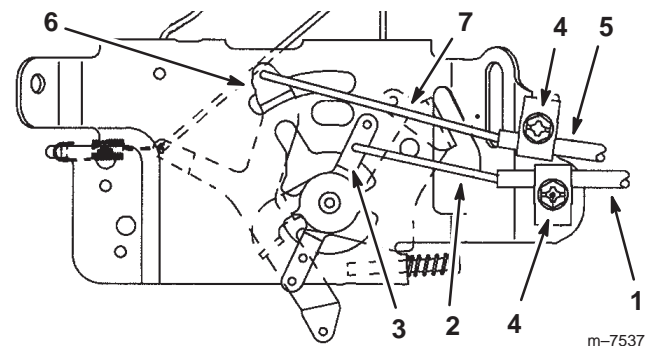

Figure 7
1. Hook the throttle cable inner wire into the hole of the speed control lever (Fig. 7).
2. Move the throttle control lever to the **Fast** position (Fig. 7).
3. Loosen the throttle cable clamp screw (Fig. 7).
4. Pull the throttle cable slightly to remove any slack in the inner wire (Fig. 7).
5. Tighten the cable clamp screw to lock the adjustment in place (Fig. 7).
1. Move the choke control to the **Open** position (Fig. 7).
2. Hook the choke cable inner wire into the hole of the choke control lever (Fig. 7).
3. Loosen the choke cable clamp screw (Fig. 7).
4. Pull the choke cable slightly to remove any slack in the inner wire (Fig. 7).